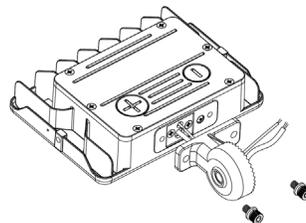

Fig. 1.1
1. Pull the wires through the top part of the knuckle mount and affix it to the luminaire with the screws provided (Fig. 1.1).